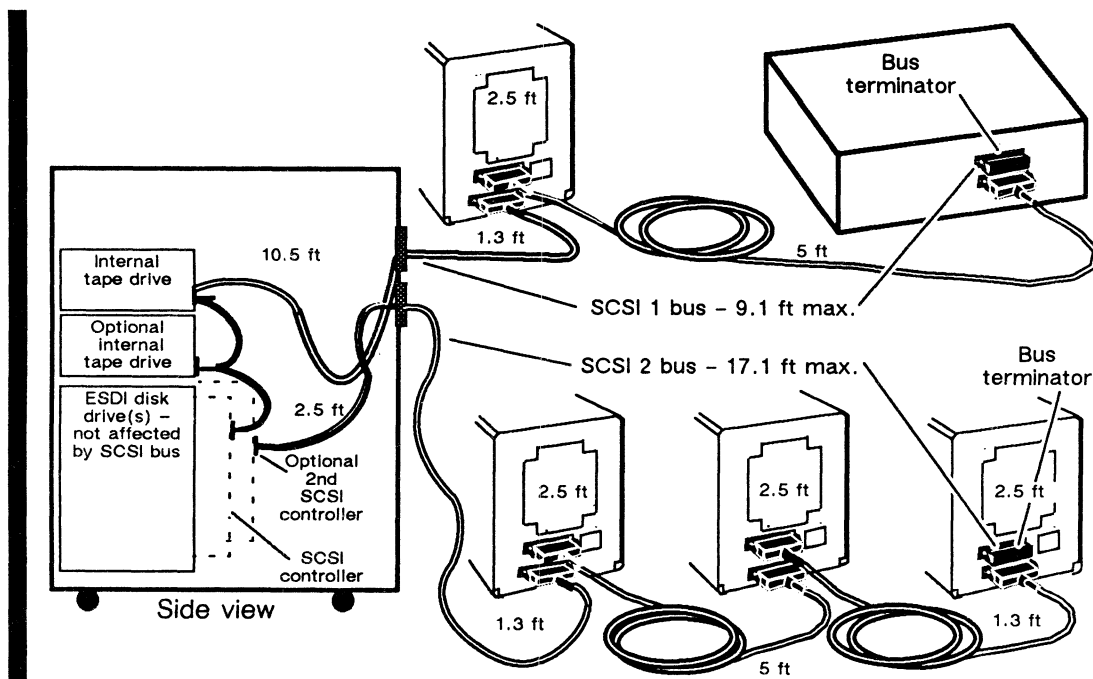

Figure 2-14 Daisy Chain and SCSI Bus Cable Lengths
SCSI bus cabling begins inside the computer unit at the SCSI controller, and links the devices on the SCSI bus in a daisy-chain as shown in Figure 2-14. The maximum length of combined internal and external SCSI bus cable cannot exceed 19.6 feet per SCSI controller.
Figure 2-14 illustrates the SCSI bus cable requirements.
When you arrange your SCSI drives along the bus, make certain to avoid strain on any part of the SCSI cable. (See the bus cabling schemes in Figures 2-14 and 2-15.)
- A terminating plug (Data General part number 005033334) that you install on the unused bulkhead connector on the outside of the unit. On such housings (for example, the Model 10565 Mass Storage Subsystem), *do not terminate any of the SCSI devices within the unit*. See Figures 2-14 and 2-15.